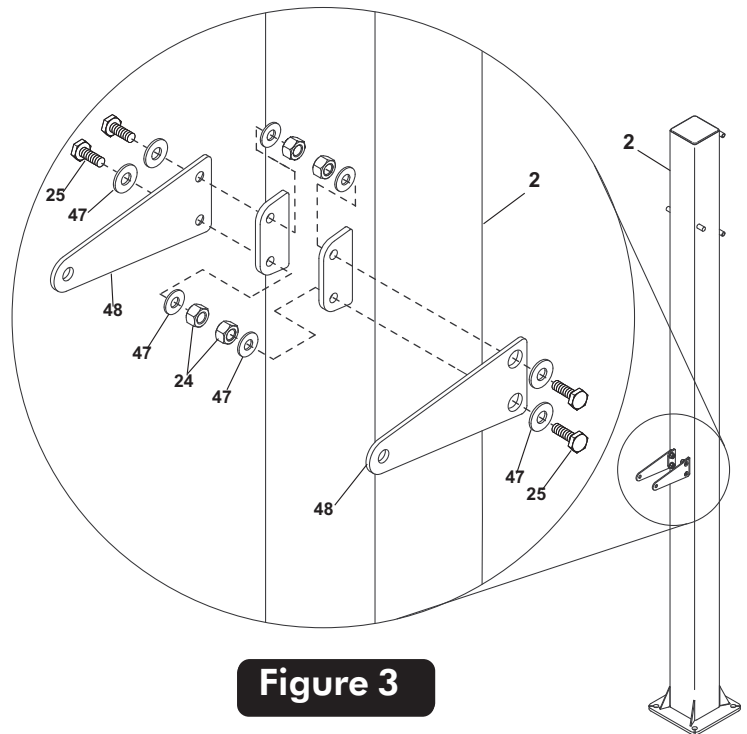

Figure 3
1. Attach Post Brackets (#48) to outside of brackets on back of Post Assembly (#2). Secure with two Hex Head Bolts (#25), four Flat Head Washers (#47) and two Locknuts (#24) in **each Bracket** (#48). See Figure 3.